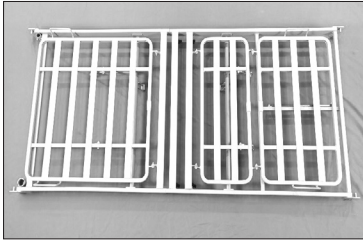
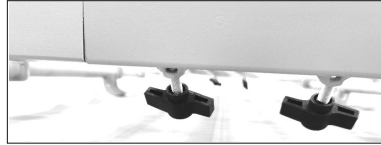

Fig.3
Fig.3a
- Join the headrest frame with the leg frame by pushing the frame all the way down and tighten the 4 locking knobs (Fig.3)(Fig.3a)